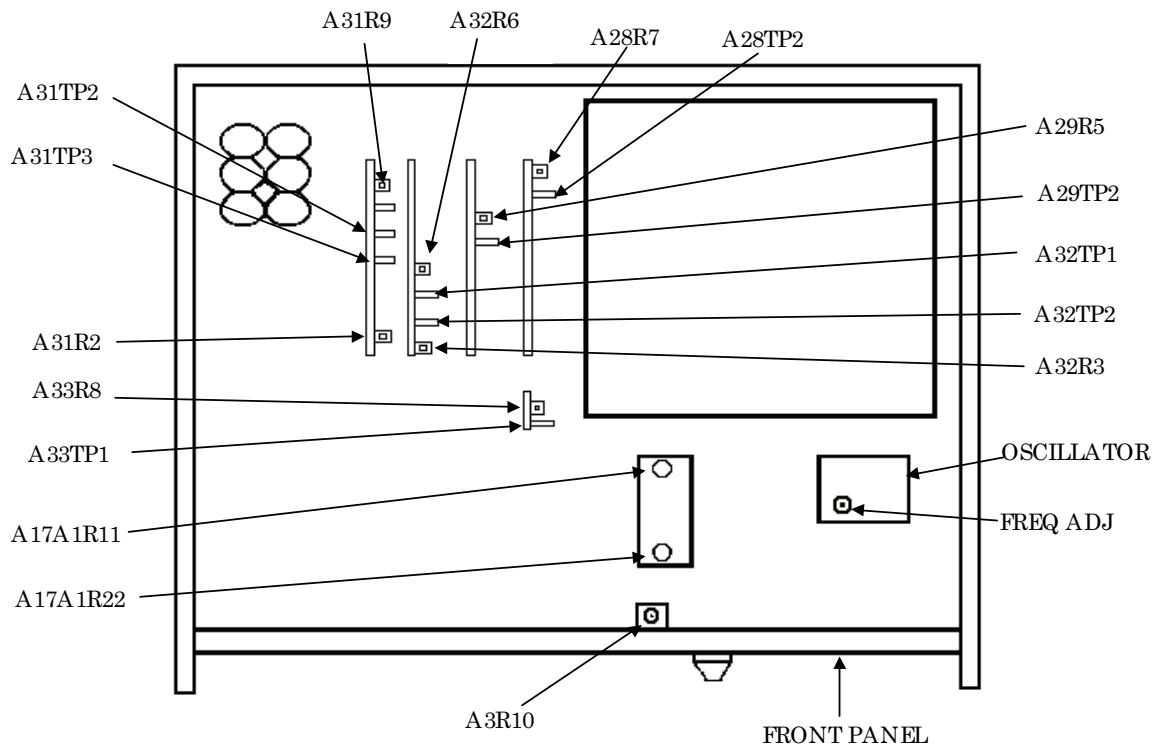

Figure 1. Test instrument - top view.
(6) Adjust FREQ ADJ (fig. 1) for a minimum indication on frequency difference meter 10^{10} range. Record frequency difference meter indication.
(7) Allow at least 24 hours for TI time base oscillator to stabilize. Frequency difference meter indication will be within ± 5 parts in 10^{10} of indication recorded in step (6) above. Record frequency difference meter indication.
(8) Adjust autotransformer output to 105 V ac. Allow 1 minute for oscillator to stabilize. Frequency difference meter indication will be within ± 1 part in 10^{10} of indication recorded in step (7) above.
(9) Adjust autotransformer output to 125 V ac. Allow 1 minute for oscillator to stabilize. Frequency difference meter indication will be within ± 1 part in 10^{10} of indication recorded in step (7) above.
(10) Adjust autotransformer output to 115 V ac.
- (1) Connect signal generator output to TI **INPUT 1 MΩ** using a 50Ω feedthrough termination.
- (2) Set signal generator frequency to 100 MHz and level output to -13 dBm.
- (3) Press **RESOLUTION Hz** pushbutton to **100** and adjust A3R10 (fig. 1) until a stable count is displayed (R).
(1) Connect signal generator output to TI **INPUT 50Ω**.
(2) Set signal generator frequency to 100 MHz and level output to -25 dBm.
(3) Adjust A17A1R22 (fig. 1) fully ccw.
(4) Adjust A17A1R11 (fig. 1) for a stable indication on TI.
(5) Decrease signal generator level output and adjust A17A1R11 (fig. 1) until maximum sensitivity is obtained (R).
(6) Increase signal generator level output for a stable indication. Record signal generator level output indication.
(7) Adjust A17A1R22 (fig. 1) fully cw. TI will display all zeros.
(8) Increase signal generator level output by 1 dB from level recorded in (6) above and adjust A17A1R22 (fig. 1) ccw until TI display indicates 100 MHz (R).
(9) Verify that sensitivity is at least -32 dBm.